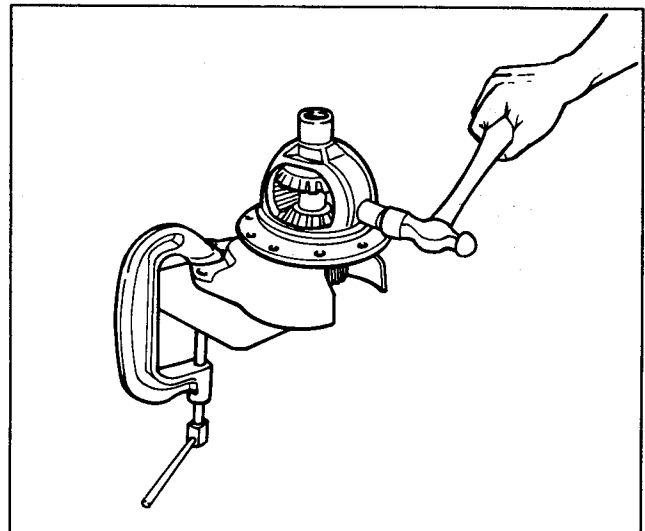

Figure 2B-21. Peening Case Over Top of Pin
3. Align lock pin hole in differential pinion mate shaft (15) and drive in differential pinion mate shaft lock pin (10). Peen case metal over top of pin to lock in place (See Figure 2B-21).
4. Install drive gear (14) with screws (13). Torque screws to 45 ft.-lbs.